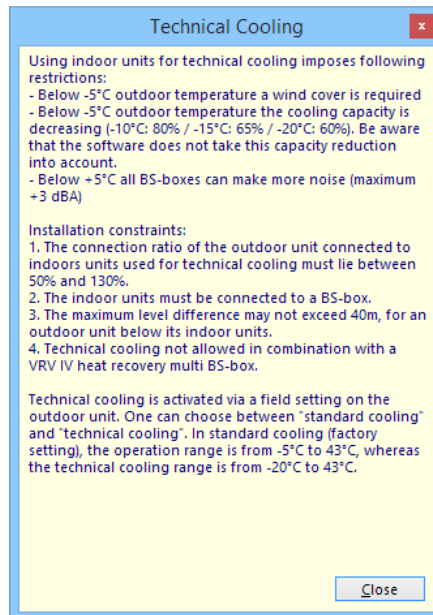

Figure 127: Restrictions on technical cooling
- The "*Indoor units can be used for technical cooling*" checkmark allows an indoor unit to be used in a technical space, making sure fragile devices are protected against overheating. This is a very special application, subject to many restrictions. You get an overview of these restrictions when clicking the small blue icon next to checkmark as shown in Figure 127.